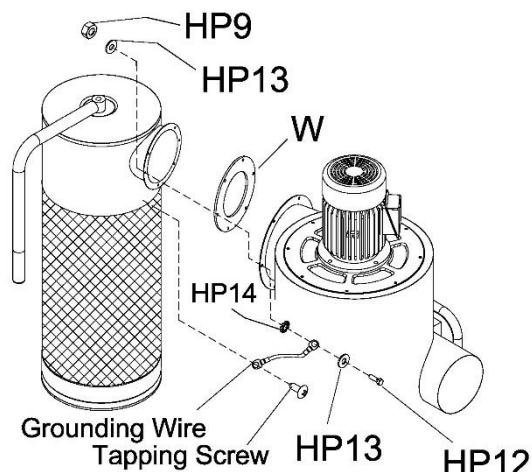

Figure 9
10. Place gasket (W) between canister filter and main housing. Install canister filter onto main housing using the hex cap screws (HP12), washers (HP13), and nuts (HP9). You must attach the canister filter ground wire to the nearest connection point as shown in Figure 9.
The grounding wire is pre-attached to the canister filter. When installing the canister filter onto the main housing, you must connect the ground wire to the main housing as shown in Figure 9. Be sure and use the star washer (HP14) when making this connection. Position the star washer (HP14), grounding wire, and flat washer (HP13) as shown in Figure 9.